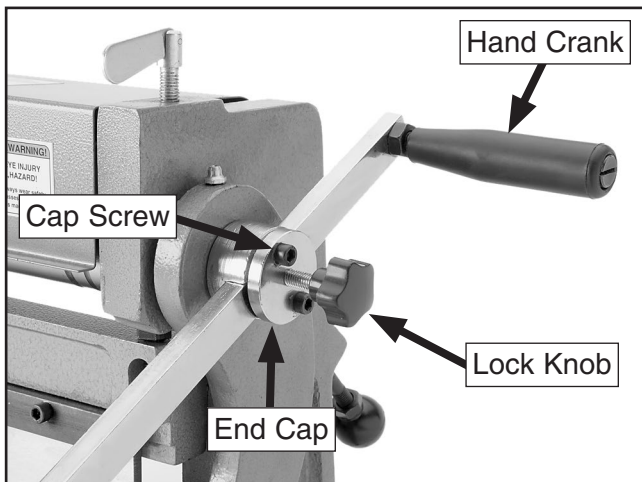

Figure 8. Hand crank installed.
1. Remove one of the cap screws on the hand crank hub, rotate the end cap out of the way, then insert the hand crank in the slot (see **Figure 8**).